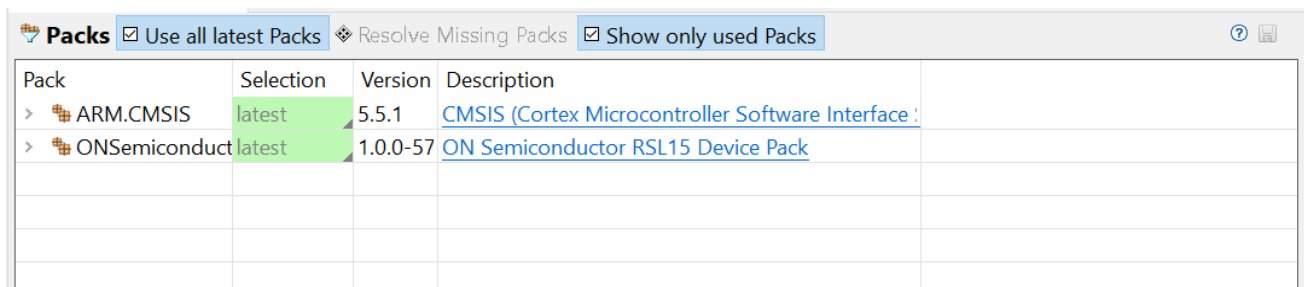

Figure 49. RTE Configuration Perspective After Resolving Pack Dependencies
- The IDE prompts you to read and accept the license agreement, then installs the missing Packs. The figure "RTE Configuration Perspective After Resolving Pack Dependencies" (Figure 49) illustrates the RTE configuration after resolving missing Packs.